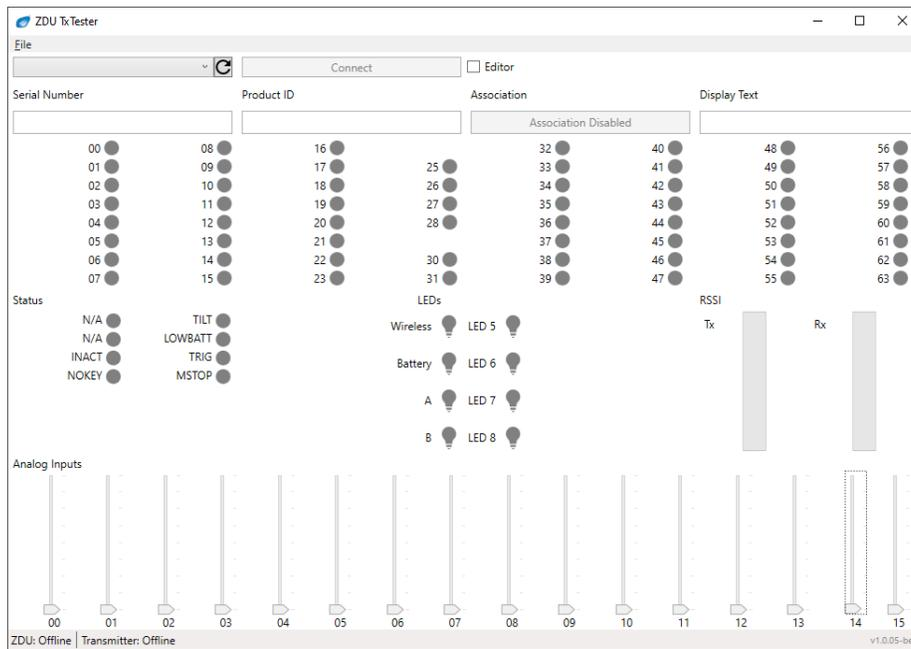

Figure 5. Main Window
- Double-click the Cervis ZDU shortcut. The **ZDU HMI Window** displays as shown in Figure 5.